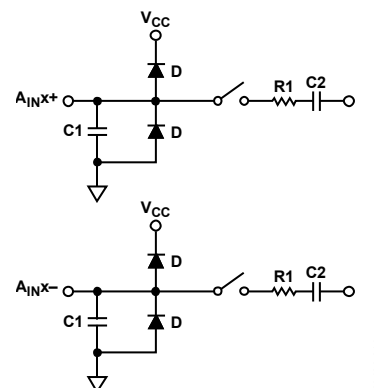

Figure 32. Equivalent Analog Input Circuit, Conversion Phase—Switches Open, Track Phase—Switches Closed
Figure 32 shows the equivalent circuit of the analog input structure of the AD4680/AD4681. The four diodes (D) provide ESD protection for the analog inputs. Ensure that the analog input signals never exceed the supply rails by more than 300 mV. Exceeding the limit causes these diodes to become forward-biased and start conducting into the substrate. These diodes can conduct up to 10 mA without causing irreversible damage to the device.
The C1 capacitors in Figure 32 are typically 3 pF and can primarily be attributed to pin capacitance. The R1 resistors are lumped components made up of the on resistance of the switches. The value of these resistors is typically about 200  $\Omega$ . The C2 capacitors are the sampling capacitors of the ADC with a capacitance of 15 pF typically.